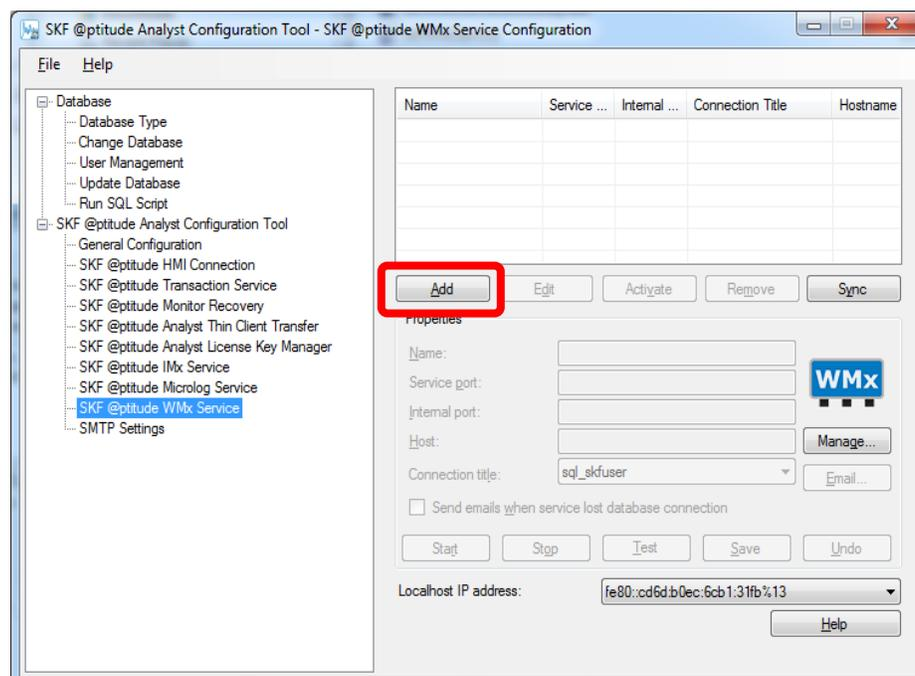

Figure 5. SKF @ptitude WMx Service Configuration
7. Only **one** WMx Service can be created in @ptitude Analyst. To create a new service, click **Add**. [Figure 5]